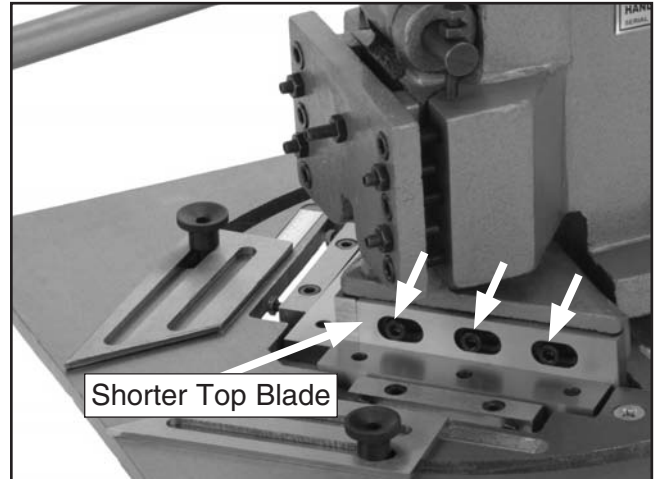

Figure 13. Shorter blade alignment (guard removed for clarity).
3. Loosen the three cap screws that secure the shorter top blade to the blade ram (**Figure 13**).